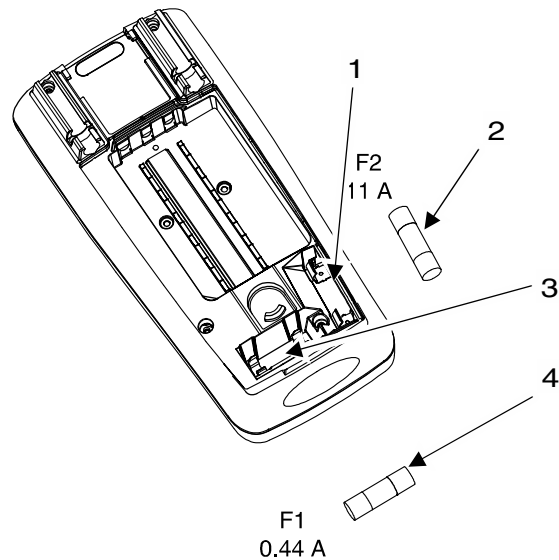

Figure 1. Multimeter Fuses Location
1. Install a new fuse (F1) (Figure 1., Item 4) into each fuse bracket (Figure 1., Item 3). Gently press down on the fuse and ensure that it snaps into both brackets. Go to Step 3.
2. Install a new fuse (F2) (Figure 1., Item 2) into each fuse bracket (Figure 1., Item 1). Gently press down on the fuse and ensure that it snaps into both brackets.